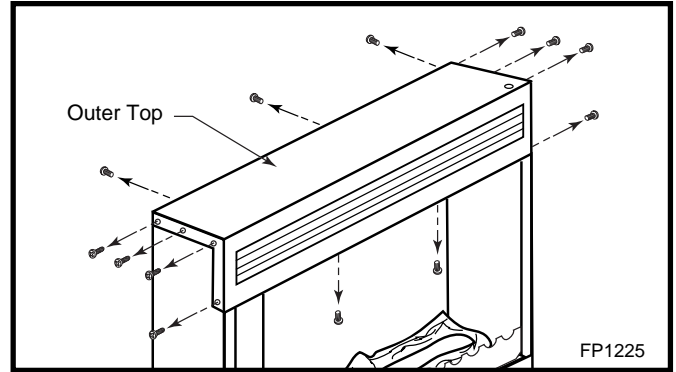
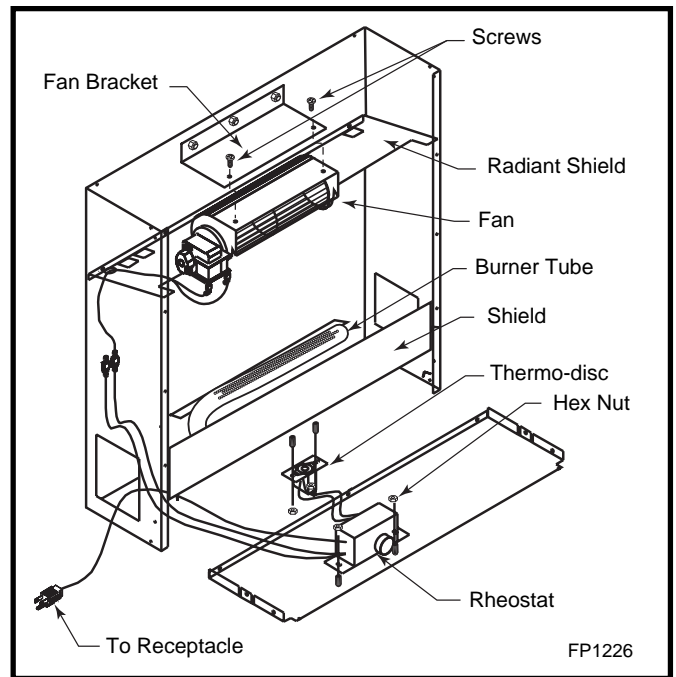

Fig. 4 Remove outer top.
Fig. 5 Attach fan to bracket.
3. Remove the 13 screws that secure the outer top to the unit. (Fig. 4)
4. Remove the two (2) screws holding the bracket to the fan.
5. Remove the two (2) wires attached to the fan and assemble the fan to the bracket as shown in Figure 5.